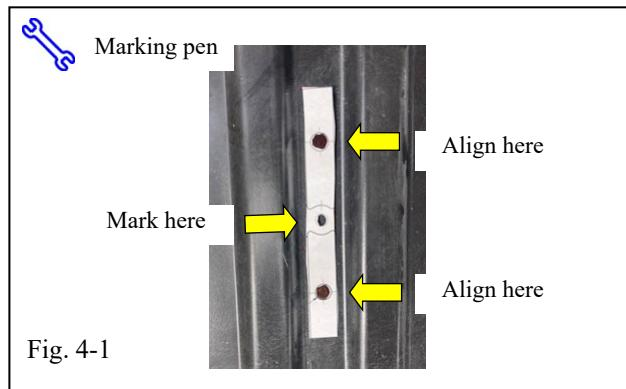

Fig. 4-1
- In each of the 4 locations, align the 2 outside holes on the template to the drilled holes. (Fig. 4-1)
- With the template in place, mark the middle hole (Fig. 4-1)